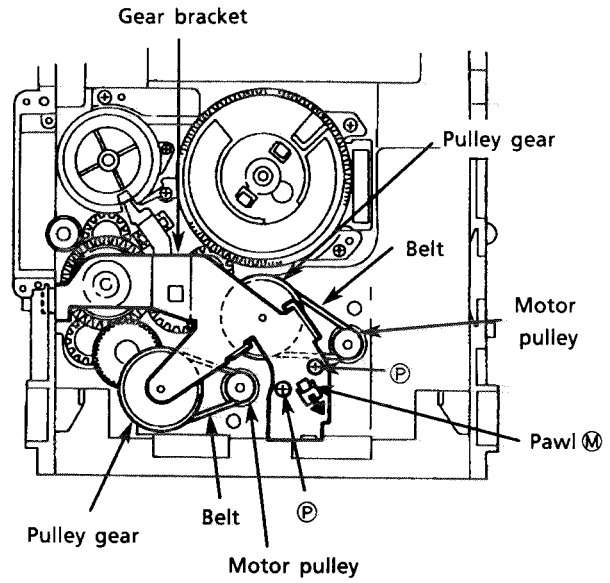

Fig. 36
1. Remove 2 screws ① securing the gear bracket. (See Fig. 36.)
2. Press the pawl ② securing the gear bracket to the arrow in the figure to remove the gear bracket. (See Fig. 36.)
4. Remove each belts from the both actuator motor pulleys and the pulley gears. (See Fig.36.)